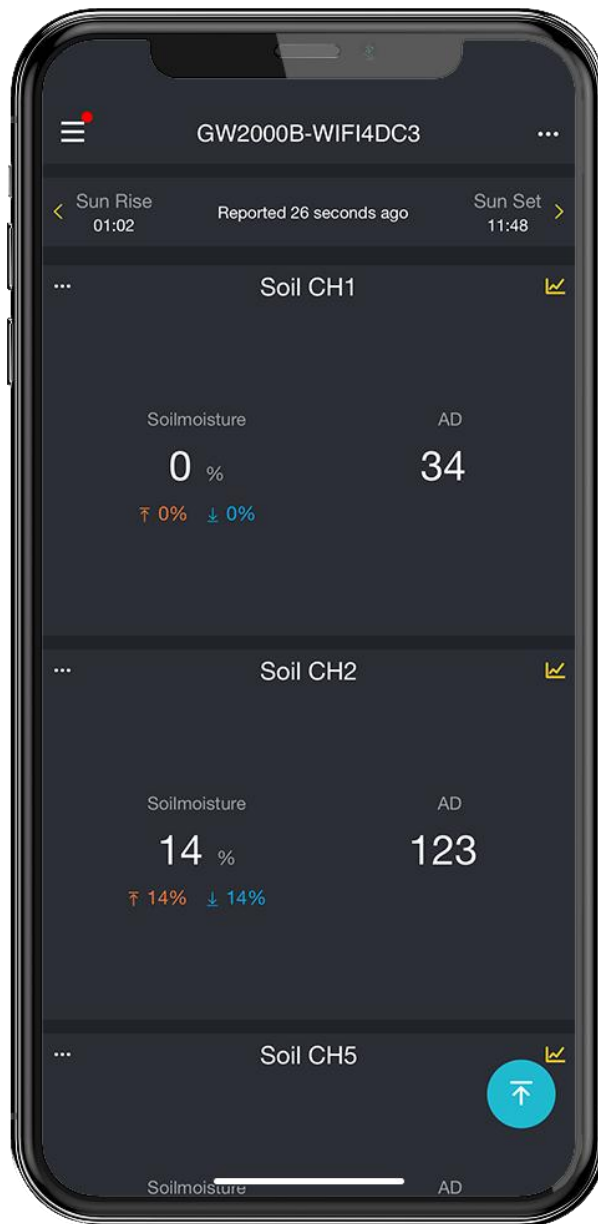

Figure 31: Data on Ecovitt APP
- Monitor live sensor data on the Live Data page of the Ecovitt app (requires the gateway and your phone is using the same Wi-Fi network), like the Figure 31.